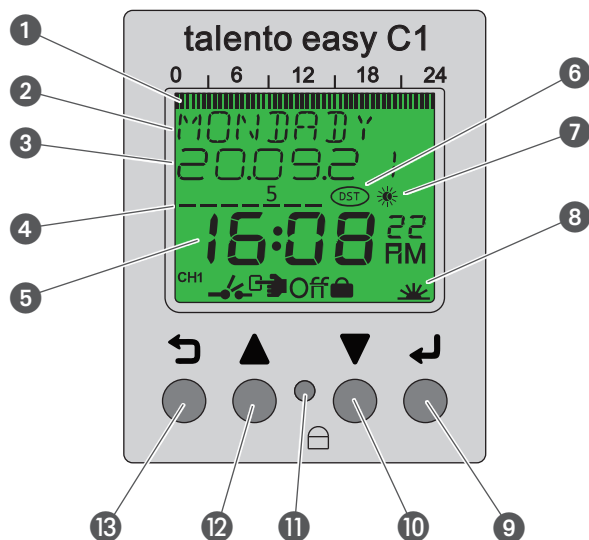

Fig. 2: Display layout
- ④ Day of the week
- ⑤ Time
- ⑥ Summer/winter
- ⑦ Day/night
- ⑧ Symbol bar
- ⑨ Enter button
- ⑩ Down button
- ⑪ Reset button
- ⑫ Up button
- ⑬ Menu button
Function buttons (Fig. 2/⑨ + ⑩)
Symbols (Fig. 2/6 + 7 + 8)
The menu structure appears on the display when you press the menu button  (Fig. 2/13).